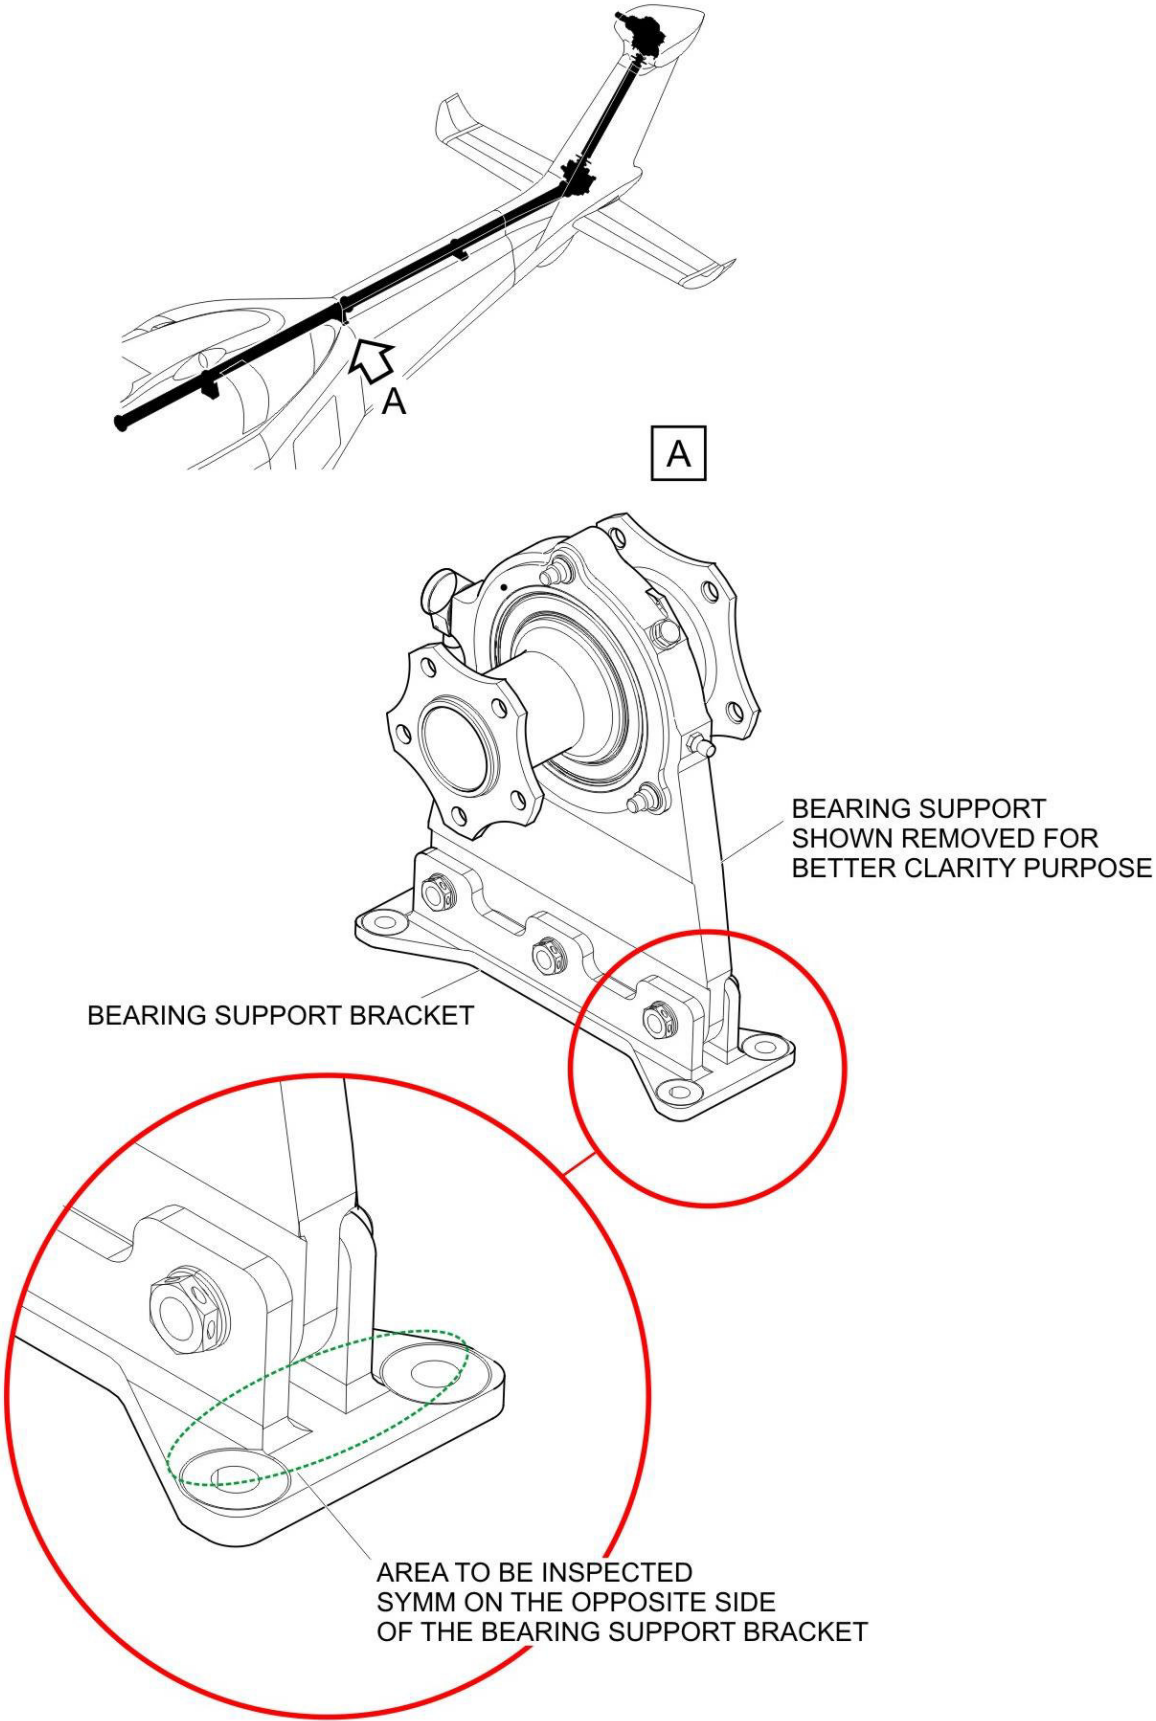

Figure 1
To clean the bearing support bracket to perform the inspection at following step 3.2, refer to figure 1 to identify the areas to be inspected. Remove sealing compound from those areas, if present.
- 3.2 With reference to figure 1, get access to the bearing support area and clean the bearing support bracket from dust, particles and lubricant using a clean, lint-free, cloth (C011) and aliphatic naphta (C059).
- 3.3 Perform the visual inspection for cracks of the bearing support bracket according to figure 1, using a magnifying glass and a strong light.